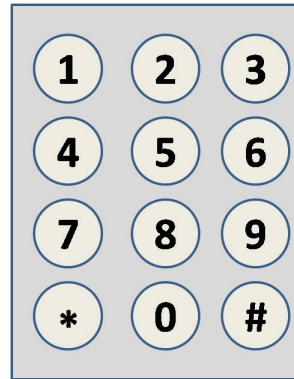

Figure 3: Keypad
**Buttons** 0-9 are used to move between the various modes, menus and sub-menus; while the **#** button is used to enter a menu, confirm or save a setting. See Figure 3